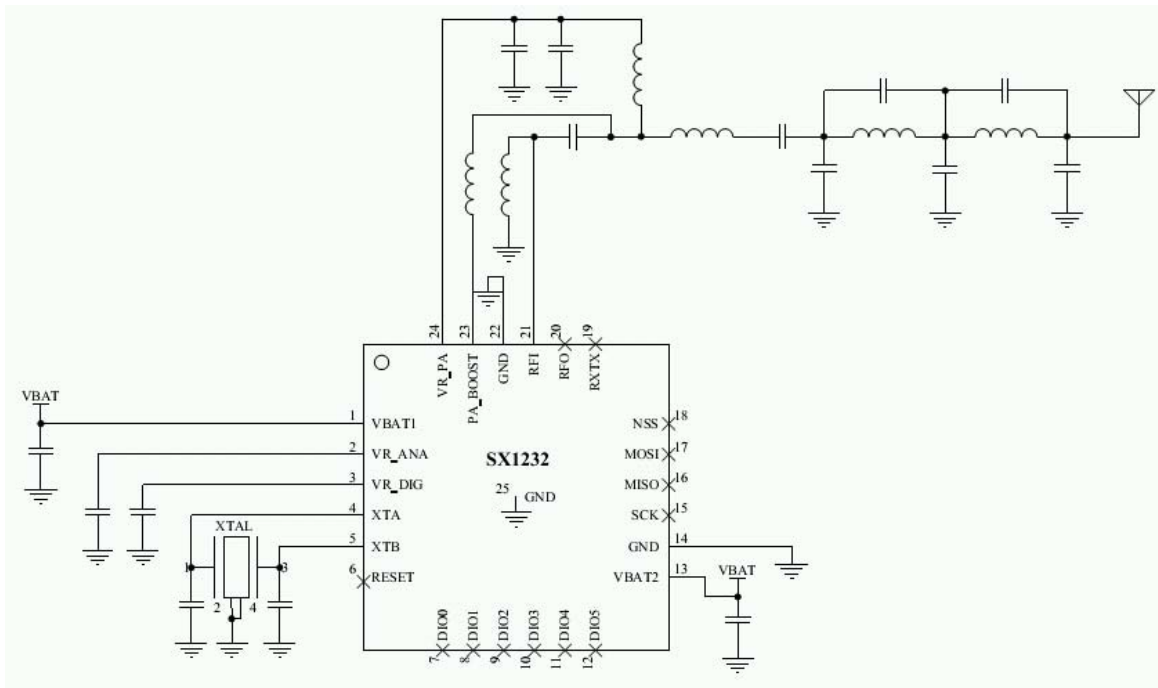

Figure 42. Reference Design - Single RF Input/Output, High Stability PA
*Note* The implementation of Figure 42 is limited to +14dBm Operation